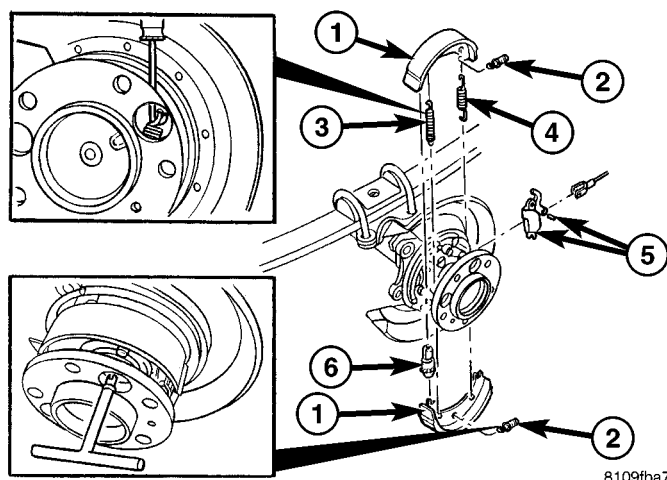

Fig. 36 PARK BRAKE SHOES
- (1) Raise and support the vehicle.
- (2) Remove the rear wheels.
- (3) Remove the disc brake rotor.
- (4) Disconnect the front park brake cable from the pulley unit. **Do not remove the rear park brake cables.**
- (5) Remove the retracting springs using special tool 9280 (Fig. 36).
- (6) Remove the adjuster (Fig. 36).
- (7) Remove the pressure springs using special tool 9281 (Fig. 36).
- (8) Remove the rear park brake shoes (Fig. 36). **Pull the park brake shoes apart at the bottom and remove them together with the adjuster.**